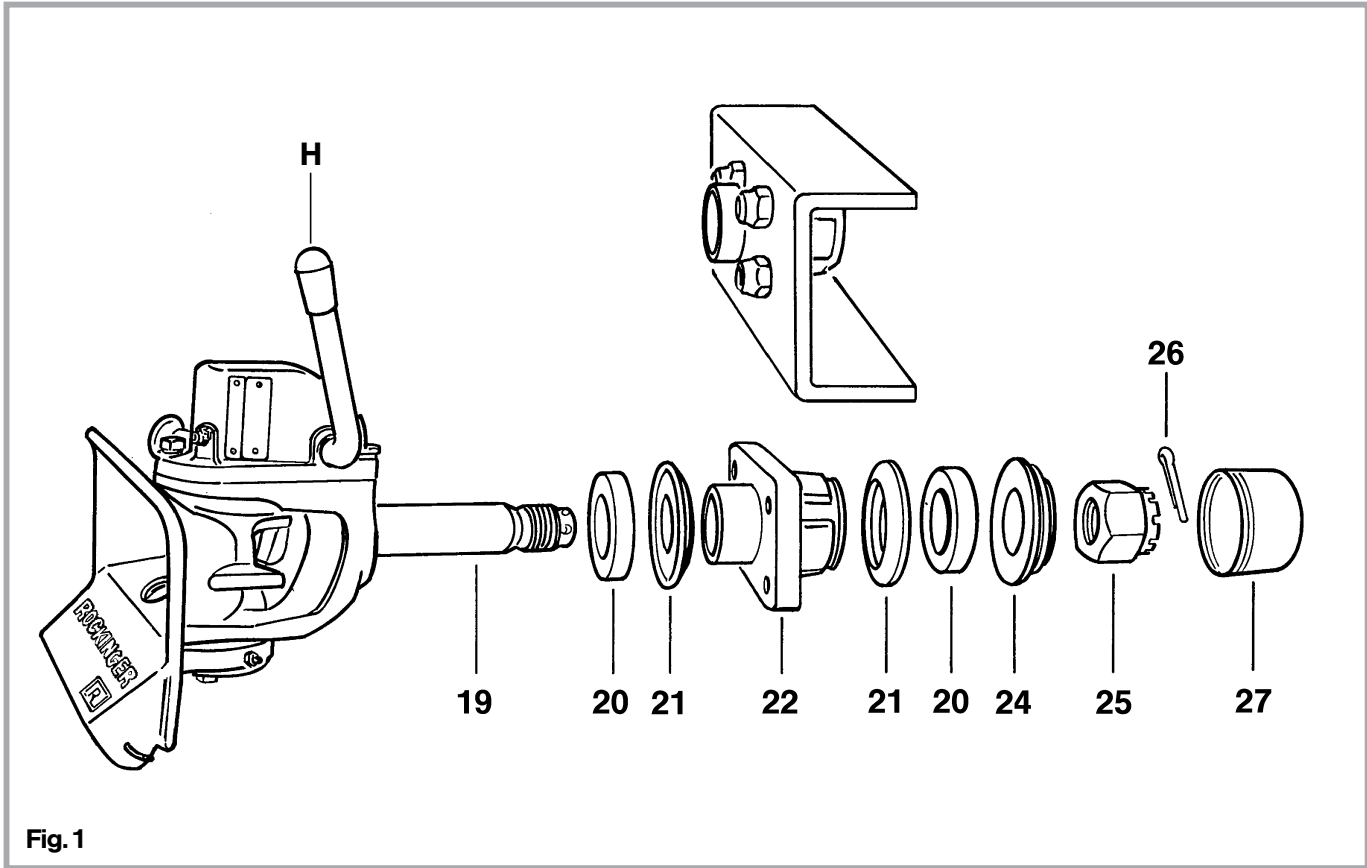

Fig. 1
- Take away the nut cover (27) including the split pin (26) and loosen the castle nut (25) (see Fig. 1).
- Tear the body shaft and the front parts (20) and (21) out the bearing (22).